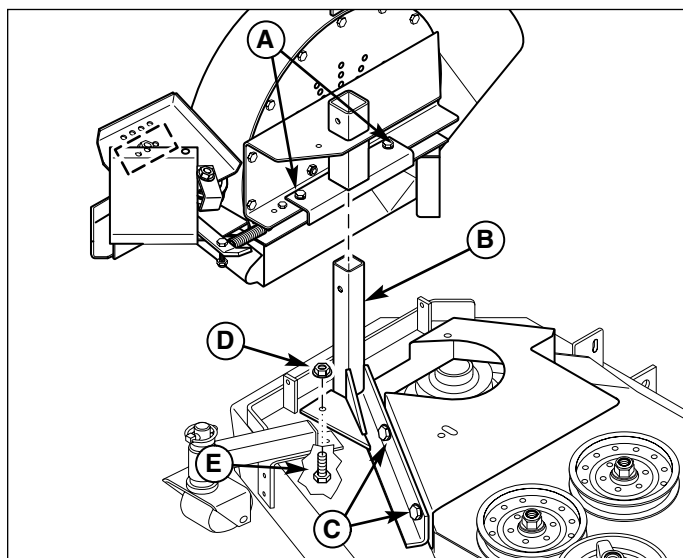

Figure 17. Install Blower
1. Loosen the 3/8-16 x 1" bolts (A, Figure 17) on the blower brace.